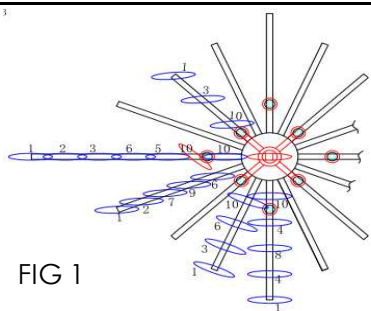
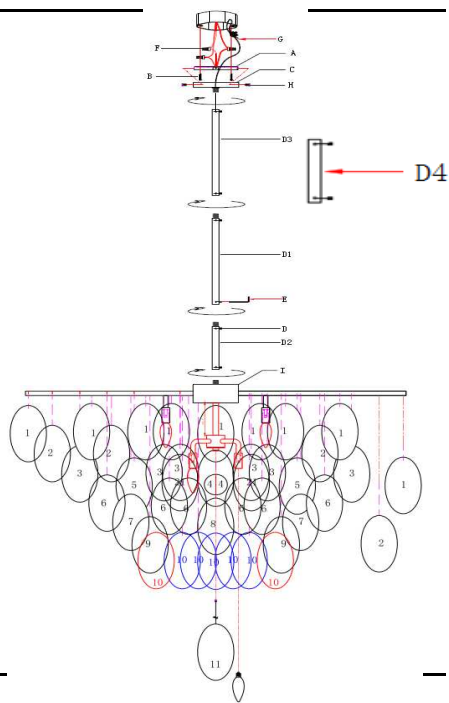

FIG 1
FIG 2
4. Connect lamp body(I) and canopy(C) with rods(D1,D2,D3,D4) when you connect the rods, loosen the small hex screws(E) first then tighten with allen wrench(E), after all rods are connected. Be sure all the hex screws are tight enough.
5. Remove mounting plate(A) from the canopy(C) by unscrewing the collar.
7. Wrap ground wire of lamp assembly and ground wire of junction box together and fasten together with a wire connector(F) and wrap the connection with electrical tape.
8. Attach the neutral fixture wire from the pendant to the neutral junction box wire (usually white). Fasten each together with a wire connector(F) and wrap the connection with electrical tape.
9. Attach the hot fixture wire from the pendant to the hot junction box wire (usually black). Fasten each together with a wire connector(F) and wrap the connection with electrical tape. **DO NOT REVERSE THE HOT AND NEUTRAL CONNECTIONS, OR SAFETY WILL BE COMPROMISED.**
10. Pass the aircraft wire(G) through the mounting plate(A), attach the aircraft wire(G) on the junction box, then secure the aircraft wire(G) with screws which are included. **This fixture is 32.5KG(71.5LBS), the aircraft wire(G) installation is required for safety.**
11. Attach the mounting plate(A) to the ceiling outlet box by using the enclosed mounting screw(B) and tighten screws with a screwdriver.
12. Push the canopy(C) up over the mounting plate(A) until it is flush with the ceiling and fix the canopy by enclosed canopy screws(H). And tighten screws with a screwdriver. Be sure all the screws were tight enough.
14. Glassified the glasses from numbers showed on the package and remove all glasses from package carefully, and hang it over on the arm as per FIG 1 & FIG 2 showed.